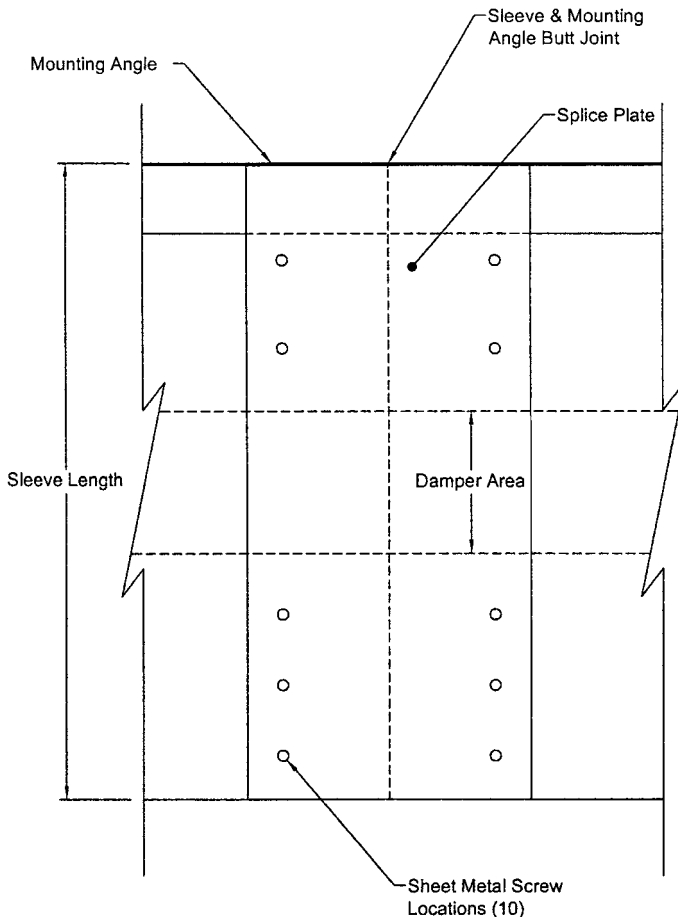

Figure 2
3. Attach the splice plates as outlined in the instructions. See fig.2
3. **Sleeve Splice** - Multiple section assemblies will normally be shipped as a single unit. Units shipped in 2 sections have factory mounted sleeves attached to 3 sides of each section (see Figure 1). The sleeve sections require splicing with (2) 8" x 18" splice plates shipped with the damper sections with (10) #10 x 3/4" sheet metal screws for each plate. The screws must be located so they will not interfere with damper function. (See figure 2). Sleeves may extend beyond the floor no more than 16". The mating frames must be screwed together in 2 rows on a minimum of 6" staggered centers and located so they will not interfere with any blade travel.